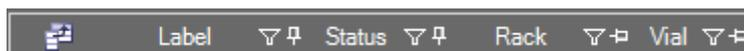

Figure 14-58. Two Fixed Columns of a LabBook Sample List
1. On the header, click the pin icon to move the selected column to the next free position on the left. The pin rotates into an upright position to indicate the frozen state. All frozen columns are grouped on the left side. See Figure 14-58.